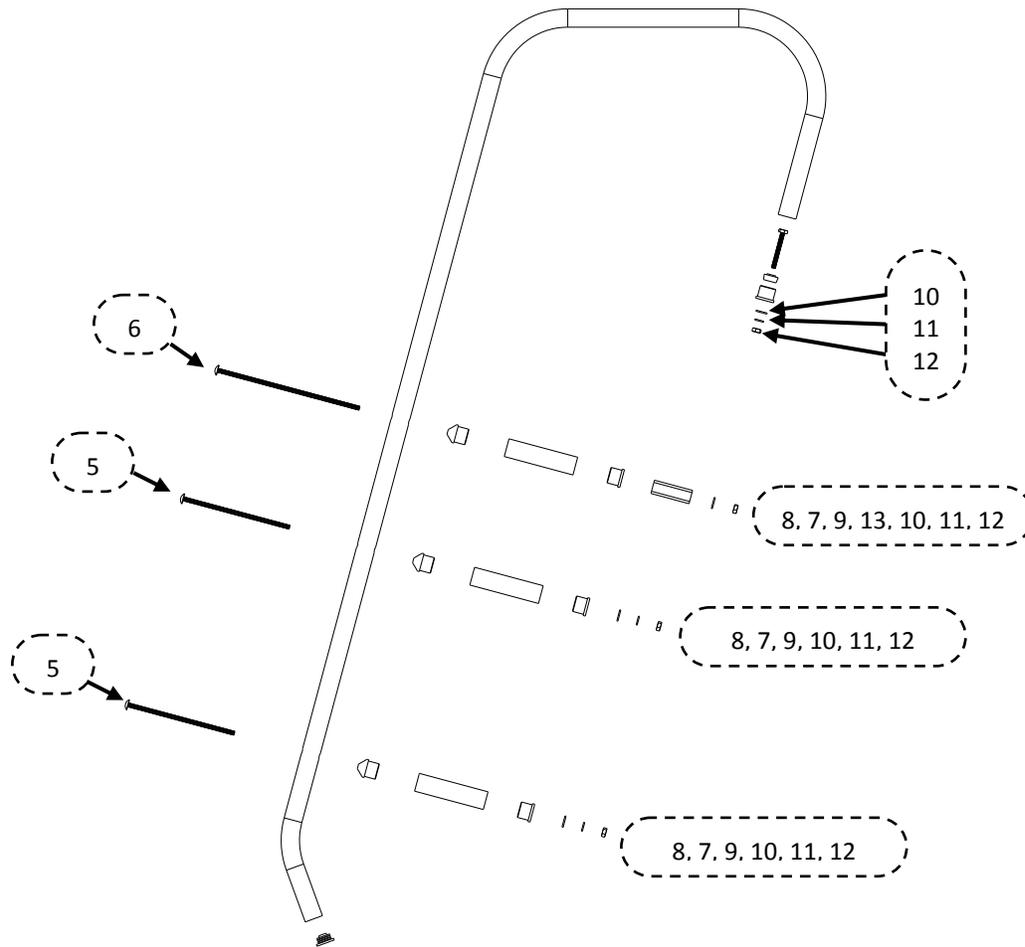
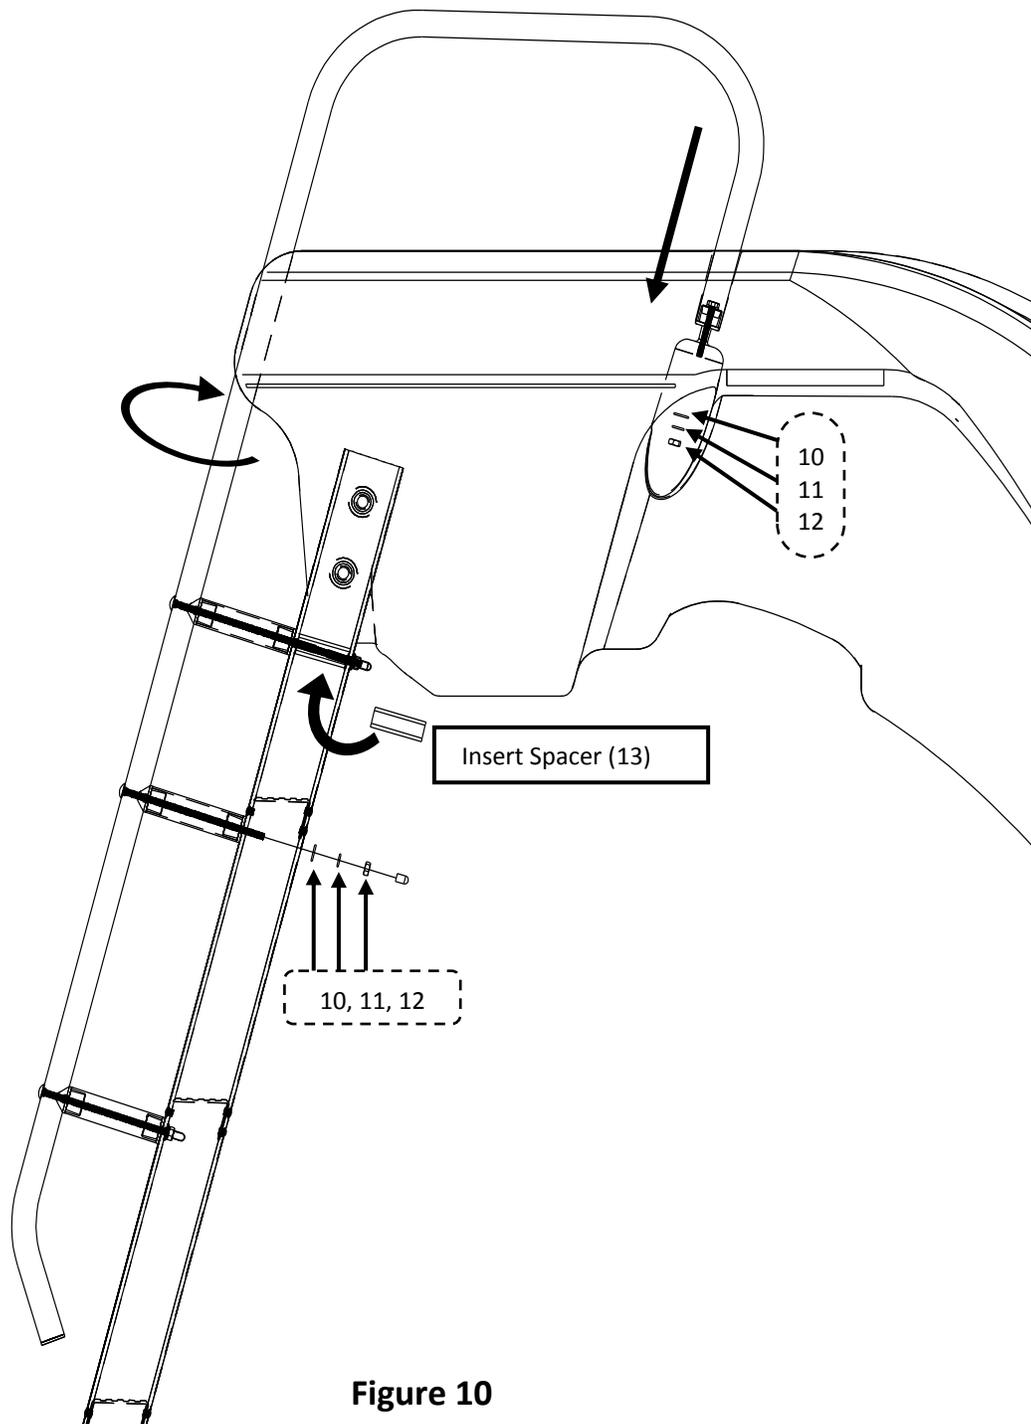

Figure 9
Figure 10
- 11) Disassemble each handrail as shown in Figure 9. Insert the two handrails into the holes on the top of the slide runway rails, and rotate so that the rails are resting in the grooves on the back side of the entrance section. Secure each handrail into the socket using a (#10) Flat Washer, a (#11) Lock Washer, and a (#12) Hex Nut. Use Loctite® 242 Thread Locking Compound on all handrail fasteners.
- 12) Starting with the top handrail spacer, align the top hole in the handrail with the top hole in the ladder side rail. Next, assemble the handrail spacer parts (#7), (#8) and (#9) in the order shown in Figure 9 and align it between the handrail and ladder top holes. Next, insert the (#6) 1/4-20 x 8" Carriage Bolt through the handrail and the handrail spacer parts. The (#13) Ladder spacer is to be placed in the inside channel of the ladder side rail such that the (#6) Carriage Bolt holds it in place after it is pushed completely through the ladder side rail, see Figure 10. Secure the (#6) Carriage bolt using a (#10) Flat Washer, a (#11) Lock Washer, and a (#12) Hex Nut in the order shown in Figure 9 and 10. Use Loctite® 242 Thread Locking Compound on all handrail fasteners.
- 13) For the remaining two ladder spacers, align parts (#7), (#8) and (#9) between the hole in the handrail and the hole in the ladder as in step 12. Use a (#5) 1/4-20 x 6" Carriage Bolt along with a (#10) Flat Washer, a (#11) Lock Washer, and a (#12) Hex Nut to fasten the parts together as shown in Figures 9 and 10. Use Loctite® 242 Thread Locking Compound on all handrail fasteners.